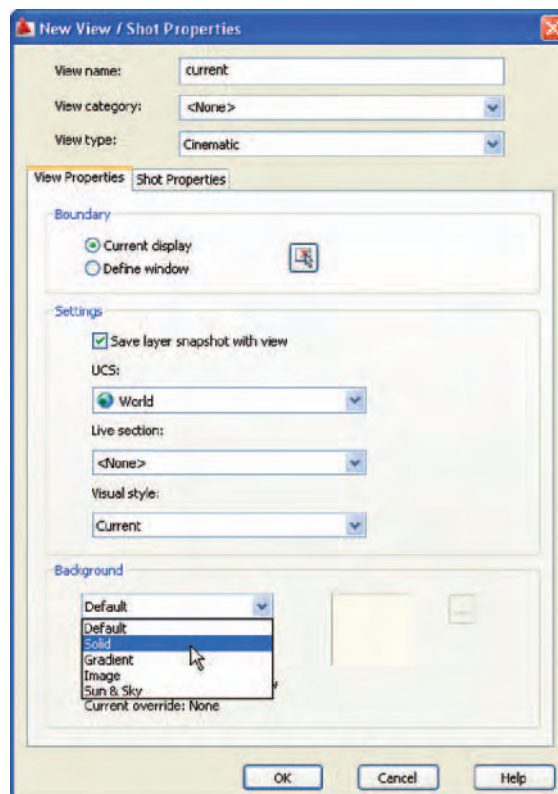
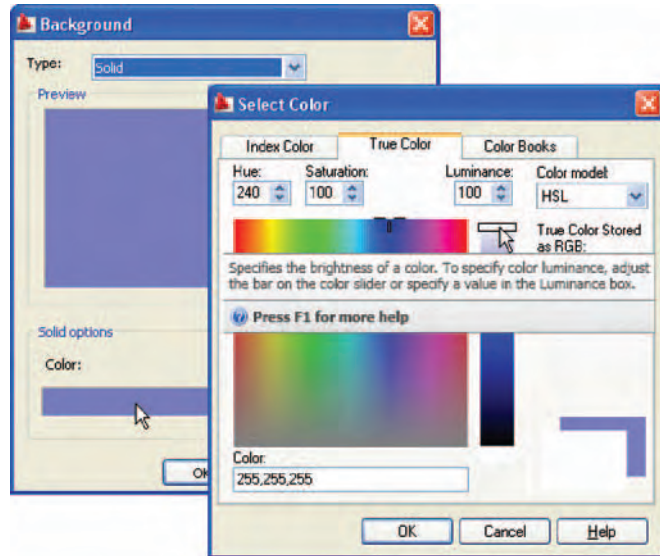

Fig. 15.21 The New View/Shot Properties dialog
Fig. 15.22 The **Background** and **Select Color** dialogs
2. The **New View/Shot Properties** dialog (Fig. 15.21) appears. *Enter current* (or similar) in the **View name** field. In the **Background** pop-up list *click Solid*. The **Background** dialog appears (Fig. 15.22).
3. In the **Background** dialog *click* in the **Color** field. The **Select Color** dialog appears (Fig. 15.22).